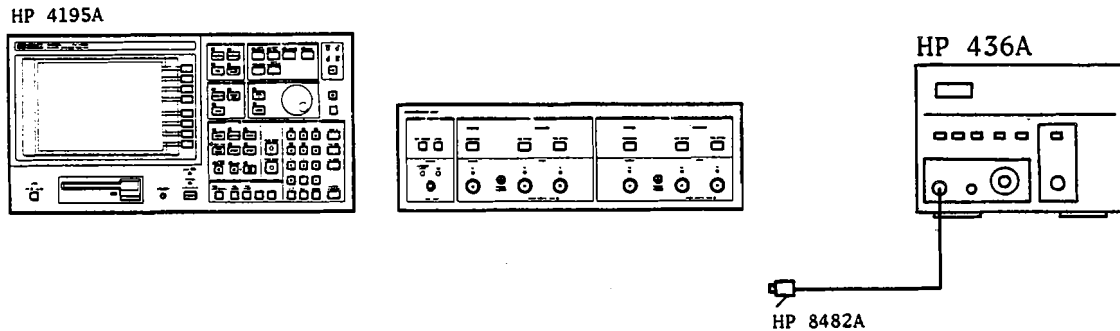

Figure 3-132. Power Amplifier Gain Adjustment Setup
1. Place the Control and Measurement Units as shown in Figure 3-132, and connect the Interconnection Cables between both units.